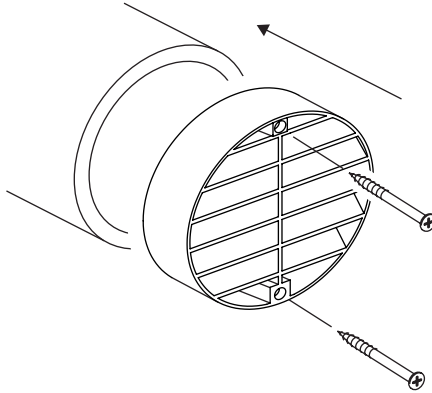

Figure 6.5. Grid placement
6. Install the Tion intake air grid (hereinafter referred to as the grid) on the tube. Fasten the grid on the tube using self-tapping screws (Figure 6.5).